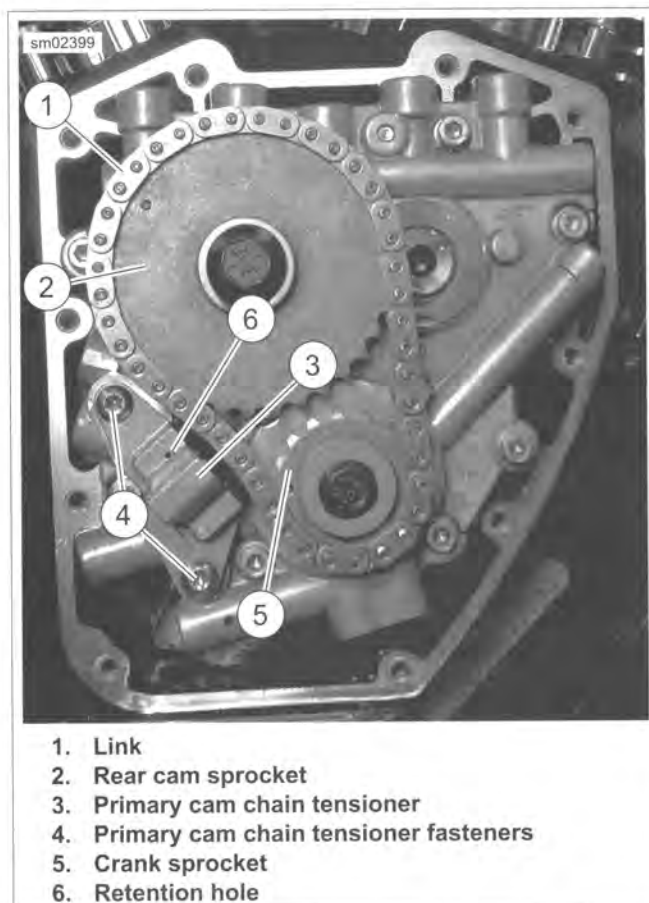

Figure 3-87. Cam Support Plate Assembly
1. See Figure 3-87. Using a colored marker, mark one of the links (1) of the primary cam chain to identify the visible side. Maintaining the original direction of rotation during assembly may prolong service life.